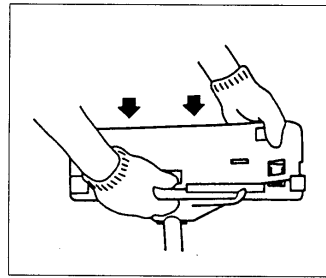

Fig. 1-7
When using a trimmer head (2) with two-piece type blade guard, attach the guard extension to the blade guard. (Fig. 1-7)